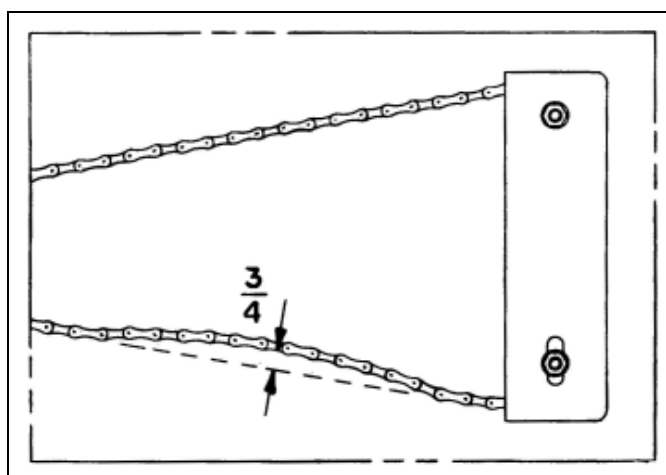

Figure 7C
6. **Roller Chain:** The roller chain center drive system moves the Red Giant trolley in and out, allowing it to stir the entire contents of the grain in the bin. This chain needs to be kept to the specifications shown in *Figure 7C on Page 72*. If this chain is operating when the tension is too tight, it will place undue wear on the idler pulleys. If it is too loose, it is possible for it to come off the drive sprocket.